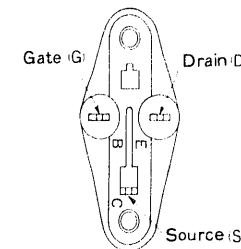

Fig. 5
- (1) When the stabilized power circuit and the peripheral parts of Q701 and Q702 (D705, R706, R707 and their peripheral parts) are replaced, the adjustment of the input/output DC may drift, so be sure to check the input/output DC voltage.
- (2) Since ⊕ grade of FET is specially classified into ⊕ - ⊕3 for Q701 and Q702, replace them matching the proper grade with the proper channel.
- (3) Since the socket for transistor use is used for the socket of the POWER MOS FET, polarity is indicated as B, C, E. Match it to the indications shown in Fig. 5 when replacing the POWER MOS FET and when checking.